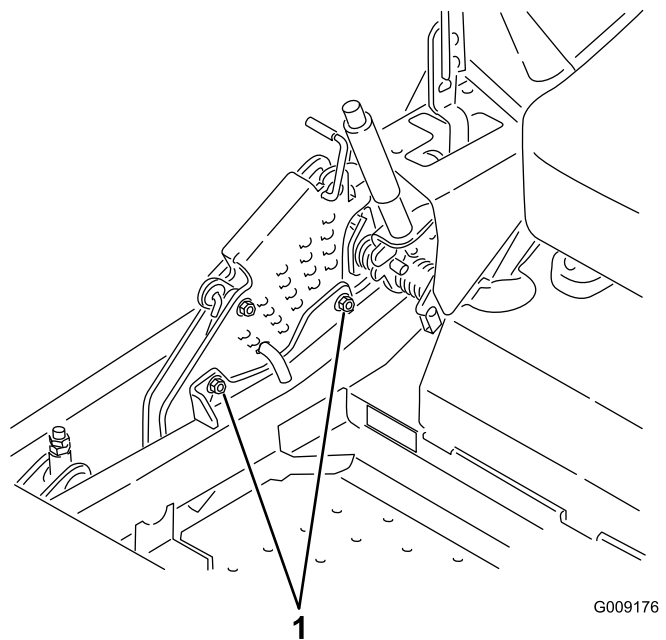

Figure 87
12. To adjust the single point system, loosen the two bolts at the bottom of the height of cut plate. Refer to Figure 87.
14. Tighten the two bolts at the bottom of the height of cut plate (Figure 87). Torque to 27-33 ft-lb (37-45 N-m).